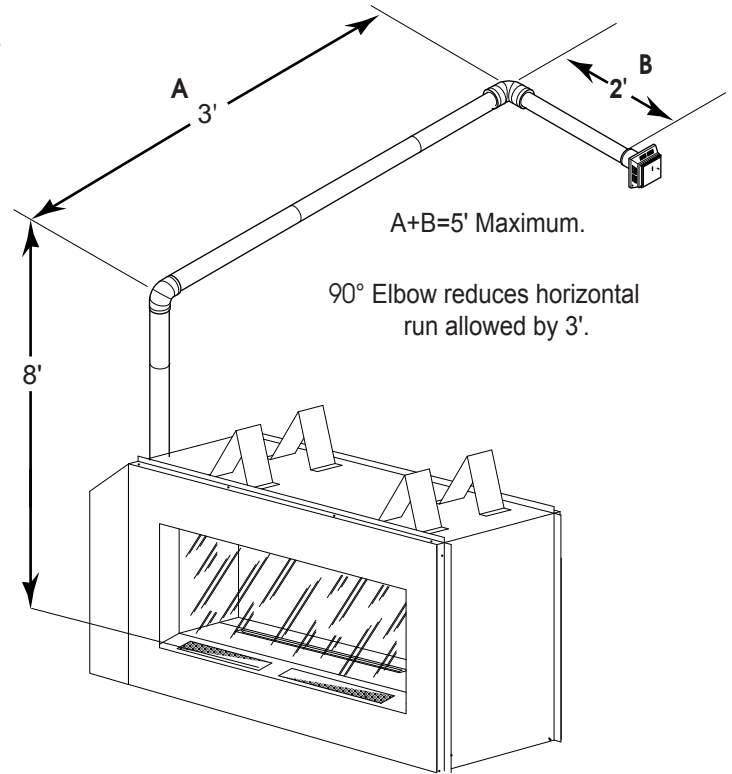

Figure 20 - Maximum Vent Run with Elbows
- If a 90° elbow is used in the horizontal vent run (level height maintained) the horizontal vent length is reduced by 36" (914 mm) (Fig. 20 A and B) This does not apply if the 90° elbows are used to increase or redirect a vertical rise. See Figure 19.
In Figure 20, Dimension A plus B must not be greater than 5'.